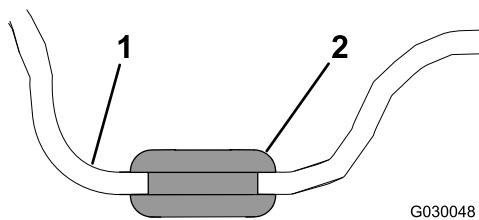

Figure 4
1. Install a grommet into each of the 4 bolt holes in the canopy (Figure 4).